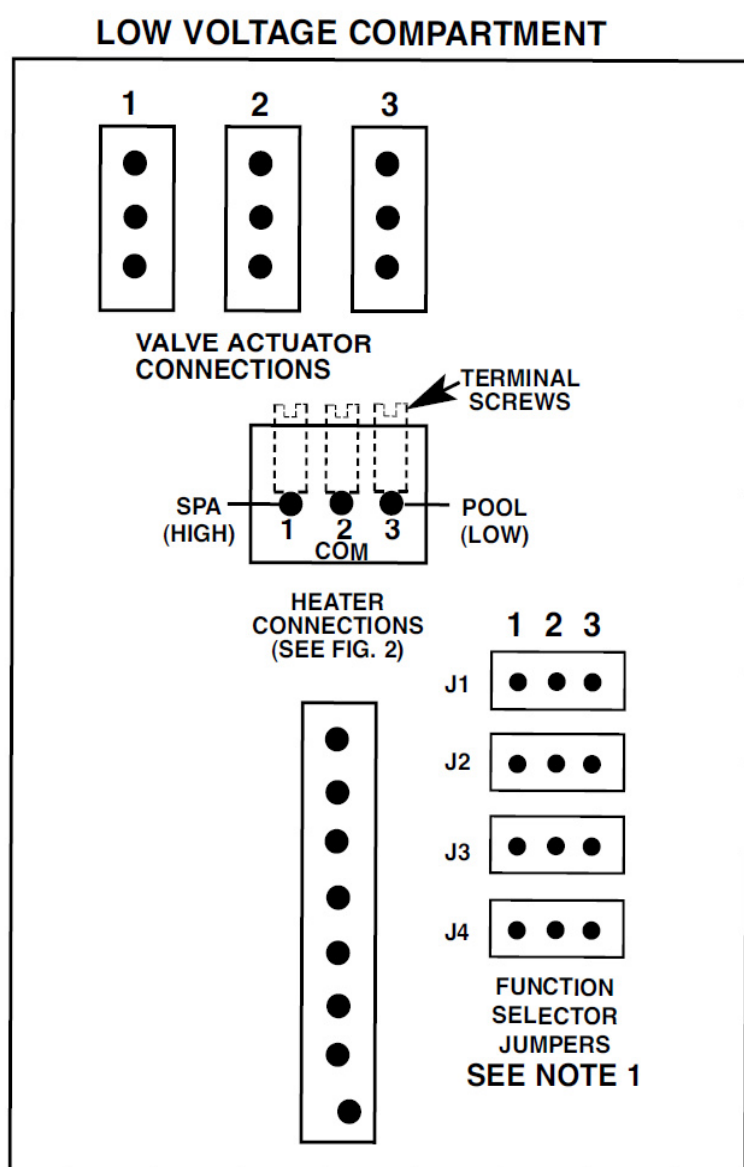

Figure 3 Low Voltage Connections
7. Set function selector jumpers (refer to Fig. 3 on page 4).
First, remove terminal block from socket. Make wire connections, then replace block with wires attached as shown on page 4, figure 3.
4. If a remote Master Switch is specified, connect one BLK/WHT lead to either the RED or WHITE lead, whichever is used to power the transformer. Connect the other BLK/WHT lead to the **Load** terminal of a switching device (toggle, countdown timer, radio receiver, etc.) and connect the **Line** terminal of the switching device to the BLACK lead of the transformer supply. Depending on the Jumper settings (see Fig. 3), the remote switching device will activate/deactivate the Pool-To-Spa function and reverse the state of the two relays.